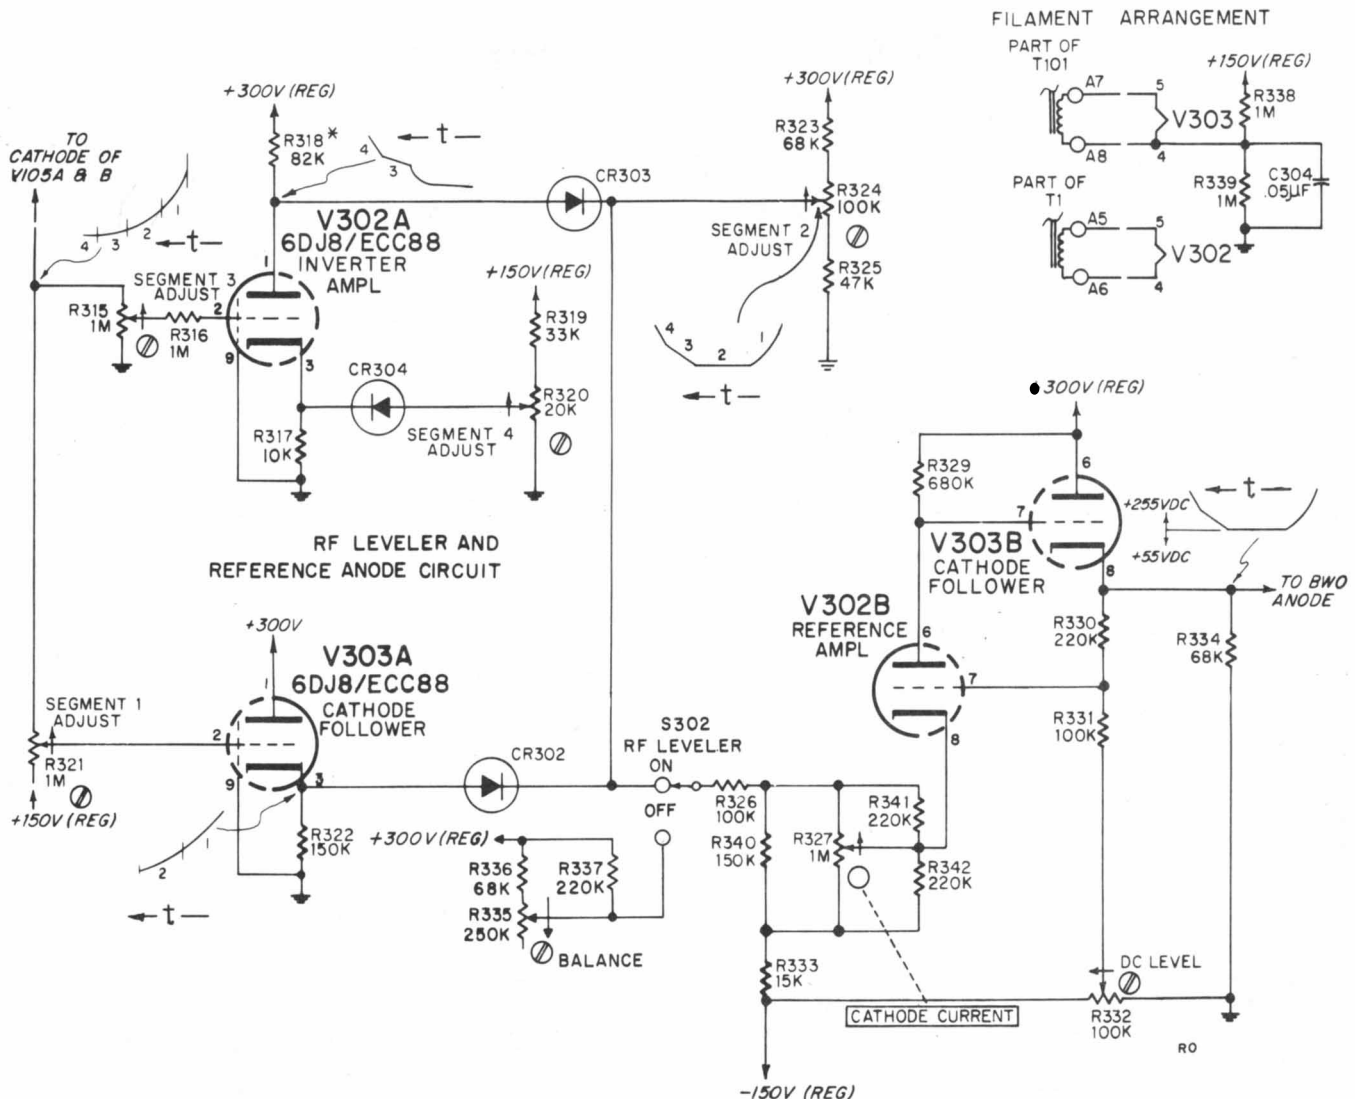

Figure 3-5. RF Leveler Circuit
B. ANODE WAVEFORM. A voltage proportional to the helix voltage is taken from the cathodes of differential amplifier modulator V105, and applied through R321 (segment 1 adj., figure 3-5) to the grid of cathode follower V303A. Potentiometer R321, by varying the amount of signal to V303A, determines the slope of segment 1 (see figure 3-4B). The wave-
form of segment 1 (taken from the cathode of V303A) is an exponentially decaying voltage which starts at +150 volts. At a point determined by the setting of R324 (segment 2 adj., figure 3-5) diode CR302 opens (ceases conducting) causing a plateau in the waveform. This plateau is segment 2 (see figure 3-4B). Crystal diode CR302 remains open for the duration of the sweep.
While segments 1 and 2 are being formed, the exponential voltage at the cathode of differential amplifier V105 is applied to the grid of V302A through the potentiometer R315 (segment 3 adj., figure 3-5). As CR303 is open, no output from V303A appears at the junction of CR302 and CR303. At a time determined by the bias on CR303, the positive-going voltage on the plate of V302A causes CR303 to close. The rising voltage at the junction of CR302 and CR303 is segment 3 (figure 3-4C). The slope of segment 3 is determined by the setting of R315 (segment 3 adj., figure 3-5). The cathode of V302A follows the negative-going voltage applied to the grid of V302A. At a time determined by the voltage at the arm of the potentiometer R320 (segment 4 adj., figure 3-5), CR304 will conduct, effectively decreasing the cathode resistance of V302A and increasing the gain of the circuit. This increased gain accounts for segment 4 (figure 3-4C).